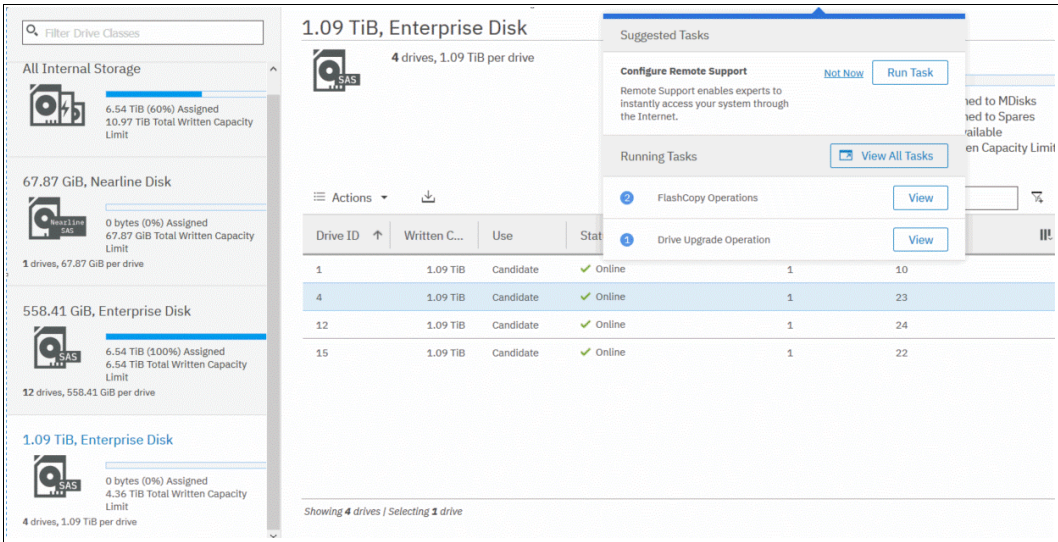

Figure 13-28 Selecting Drive Upgrade running task view
5. With the drive upgrades running, you can view the progress by clicking the **Tasks** icon and clicking **View** for the Drive Upgrade running task, as shown in Figure 13-28.